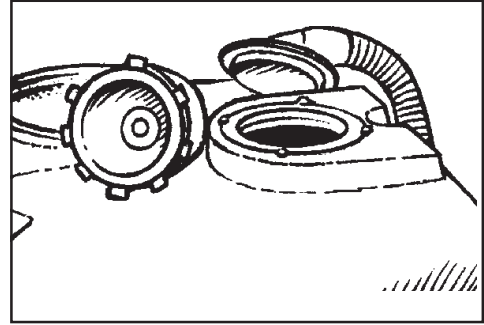

Figure 47
7. Remove the vacuum hose adapter from the top of the recovery tank by rotating it counter-clockwise and pulling it upwards (see figure 47).